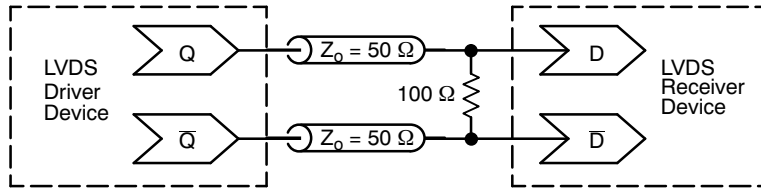

Figure 13. Typical LVDS Termination for Output Driver and Device Evaluation
5. LVDS outputs require 100 Ω receiver termination resistor between differential pair. See Figure 13.
12. Measured by forcing $V_{INPPmin}$ with 50% duty cycle clock source and $V_{CC} - 1400\text{ mV}$ offset. All loading with an external $R_L = 100\ \Omega$. Input edge rates 150 ps (20%-80%). See Figure 13.